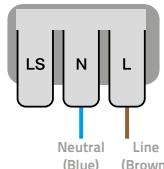

Fig 1
- For non-maintained operation please wire up the fitting as shown in fig 1.